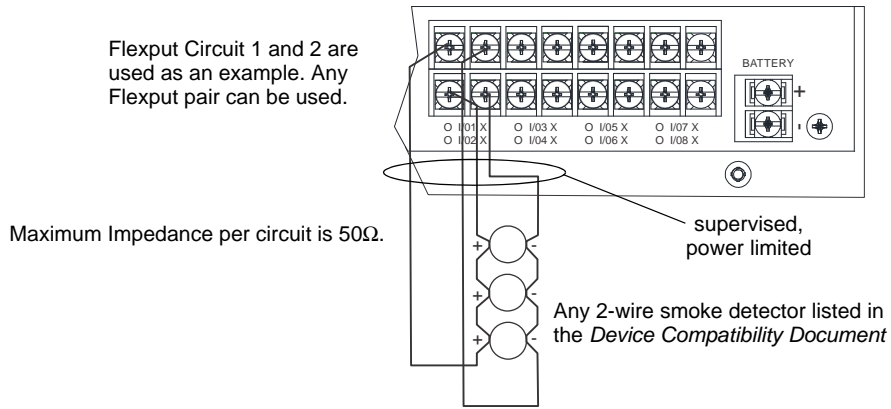

Figure 4.49 Two-Wire Class A Smoke Detector Connections
**NOTE:** In programming any point that uses multiple Flexput circuits, the lowest Flexput circuit number is used to refer to the circuit pair. For example, Figure 4.49 uses both Flexput circuit 5 and 6, so in programming it would be referred to as point 5